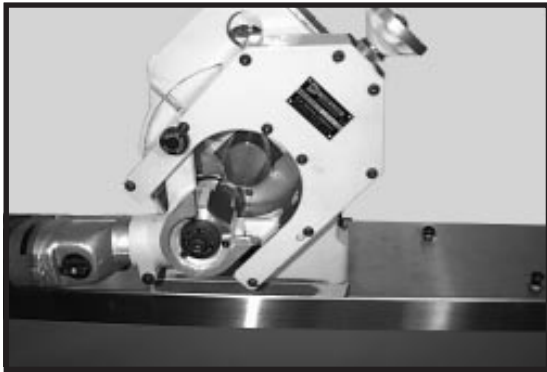

Figure 5
1. Clamp workpiece in vise with end of workpiece behind edge of blade. (Figure 5)